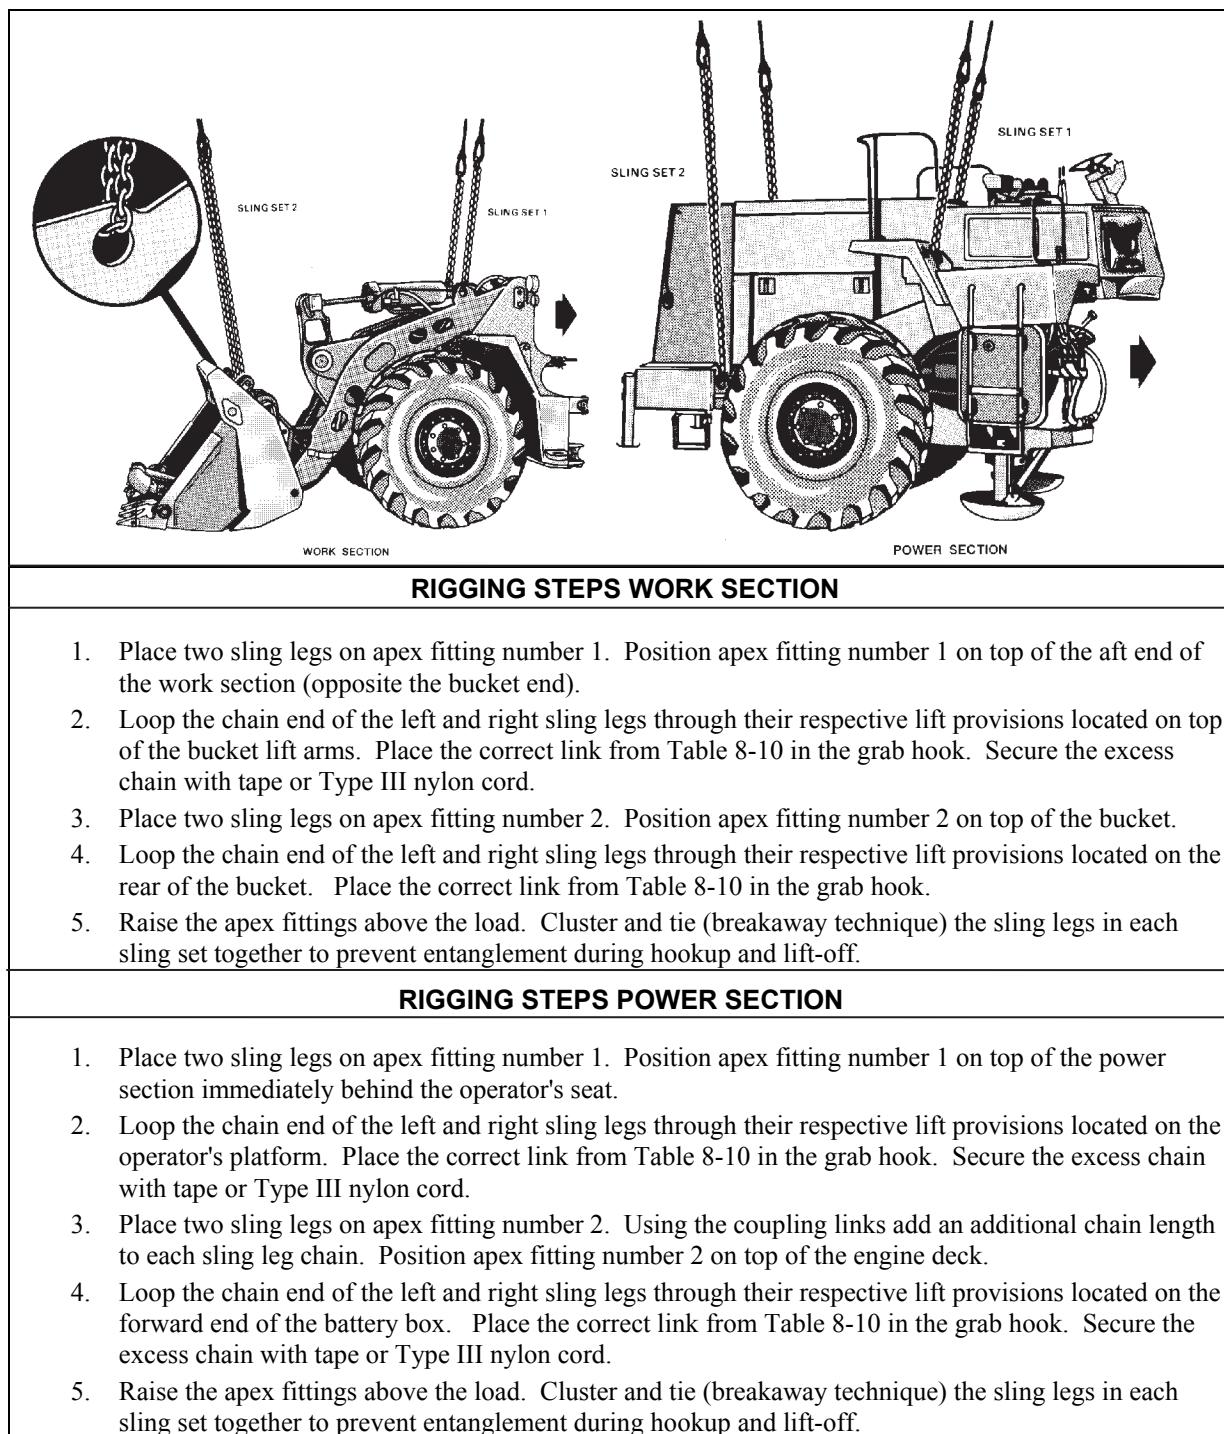

Figure 8-10. 950BS Scoop Loader, Sectionalized
- **Rigging.** Rig the load according to the steps in Figure 8-10.